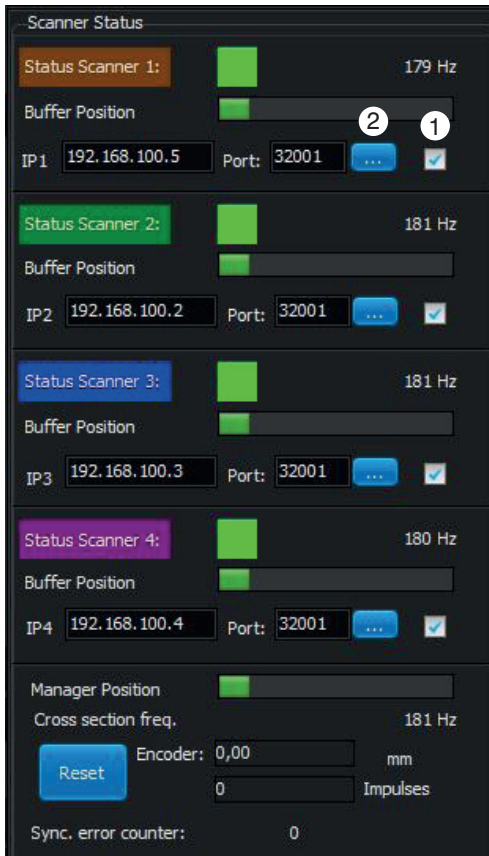
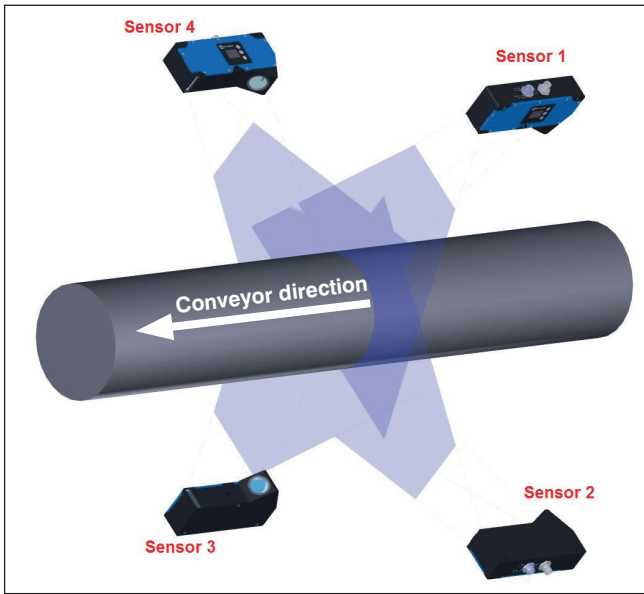

Figure 7: Entering the IP address
Figure 8: Correct sensor alignment relative to feed direction
In order to connect the sensors with the software, enter the password "MELSENSOR" into the provided line and click on "Activate". Enter the IP addresses of the sensors used in the provided fields in the window that now opens (see Figure 7). When doing so, make sure that the sensors are ordered properly (see Figure 8). The port is set to 32001 for every sensor and cannot be changed. Clicking on the ① check box will switch the respective sensor on or off. Access the scanner settings by clicking on ② (see sec. 9.3).